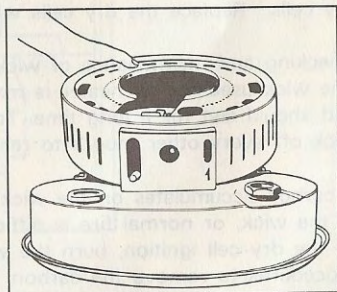

Fig. 20
- (5) Remove the wick holder housing by lifting it from the back and tilting it forward to clear the wick holder assembly (Fig. 20).